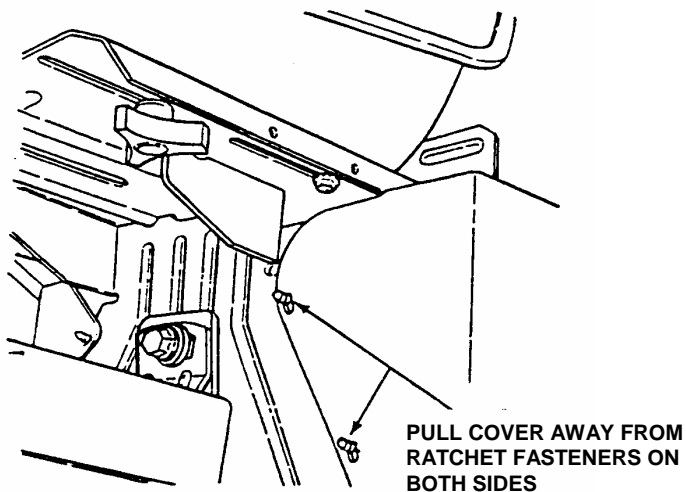

FIGURE 9
- (a) Remove battery cover by pulling each side away from ratchet fasteners. See Figure 9.